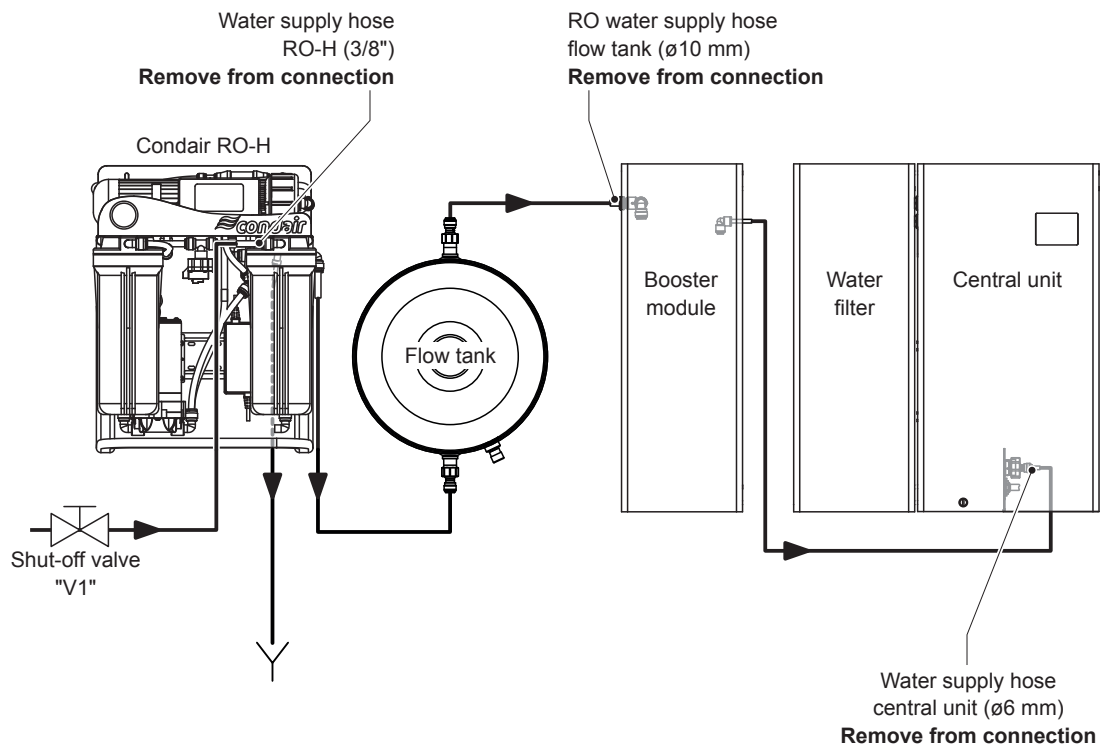
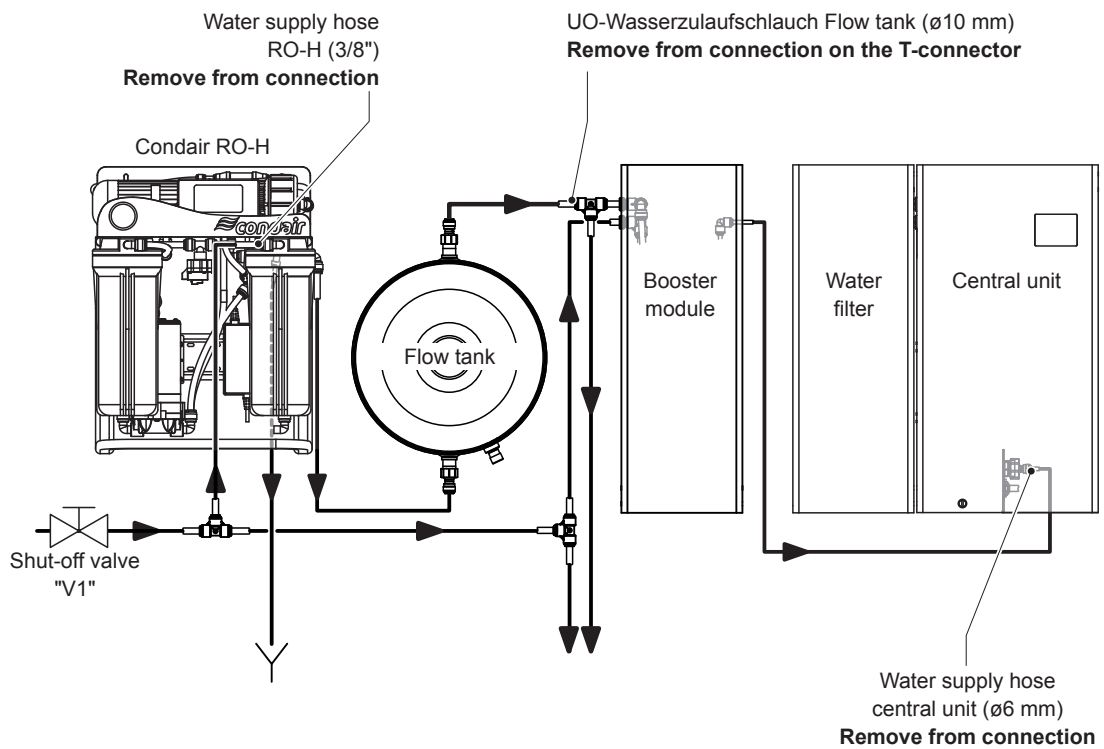

Fig. 55: Removing the hoses from MN single systems
Fig. 56: Removing the hoses from MN multiple systems
2. Make sure that the water system is depressurized (see Section 4.1.5.1). Then disconnect the hoses marked in Fig. 55 or Fig. 56.
23. Open the shut-off valve "V1" in the water supply line to the reverse osmosis unit Condair RO-H (see Fig. 55 or Fig. 56). The filter housings are filled and the system is pressurized.